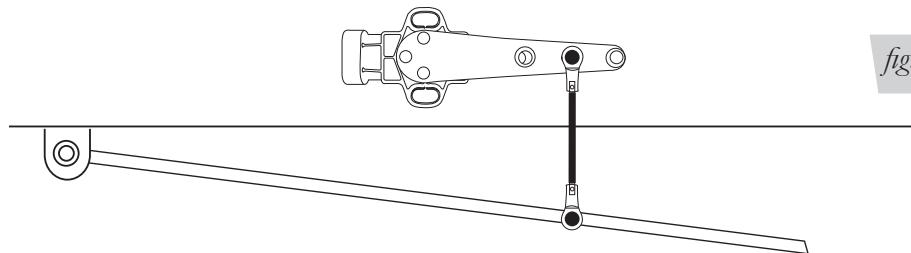

fig. 24
- Fasten by finger tightening the linkage to the sensor arm and ensure the sensor arm is at mid-position with respect to the sensor (fig. 24).